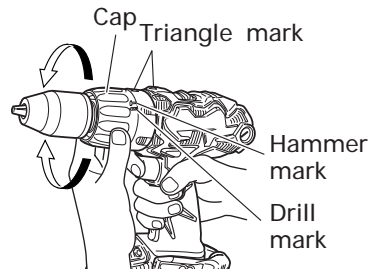

Fig. 21
## 9. Confirm the cap position &lt;DV18DL&gt; (See Fig. 21)
- (2) Tightening torque indication (See Fig. 21 and 23)
- (3) Adjusting the tightening torque (See Fig. 21 and 23)